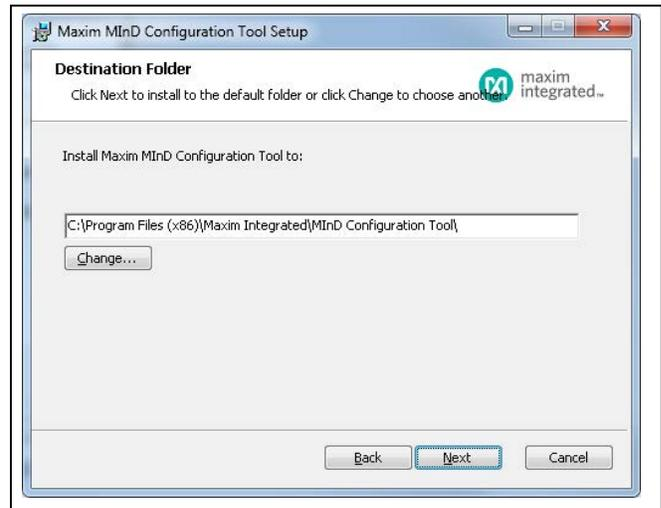

Figure 5. Software Install (Step 3)
- 3) Select the **installation folder** and click **Next** (Figure 5).